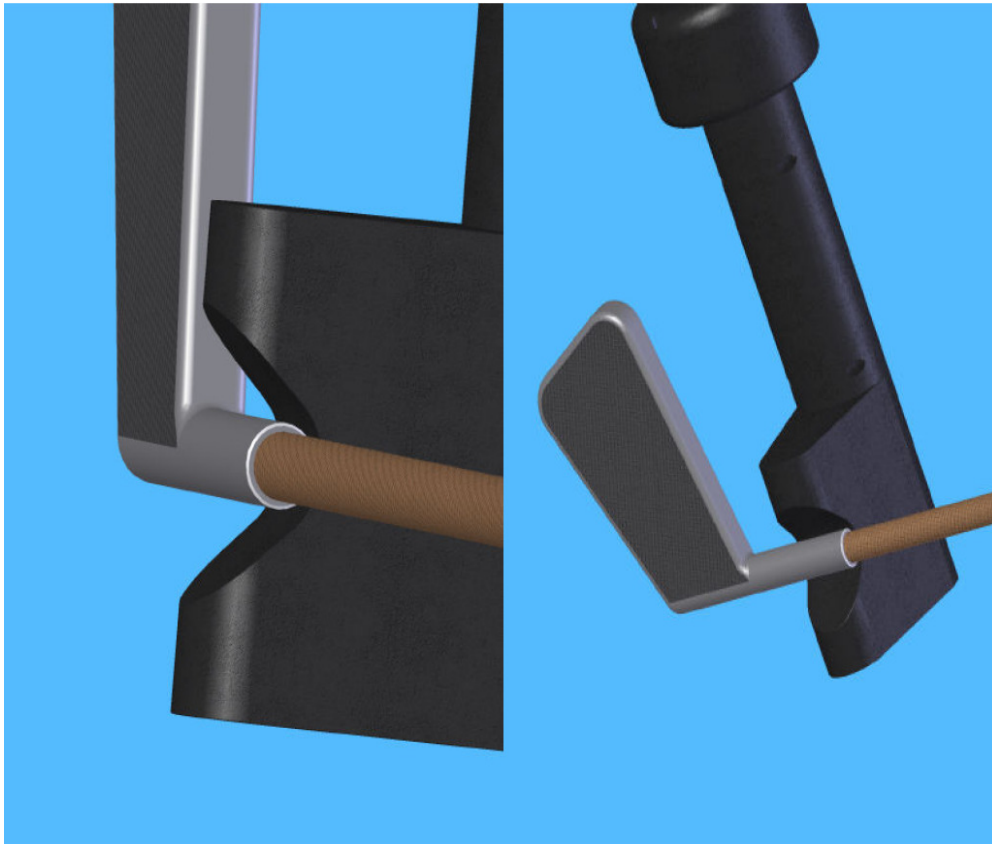

Fig.5 Inductor head alignment
3. Turn the ON/OFF switch on the back of the Power Supply to the ON or "1" position to turn it on. As mentioned in 6.1.1 After turning the device ON it displays the software version number and enters in power setting mode (See user menu structure -Fig.4b). Set the timer and power output according the club hosel size and the heat amount you want to reach. Take the inductor head and position it over the hosel so that it covers the place that has to be heated (Fig.5). The deeper the hosel gets into the inductor gap the better it's heated.